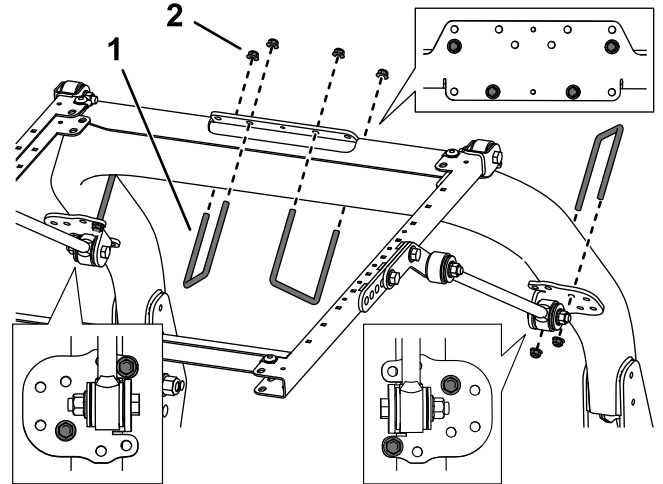

Figure 36
- Using the mounting holes shown in Figure 36, loosely secure each of the brace brackets to the roll bar posts with a U-bolt (3-7/8 x 5 inches) and 2 flange nuts.